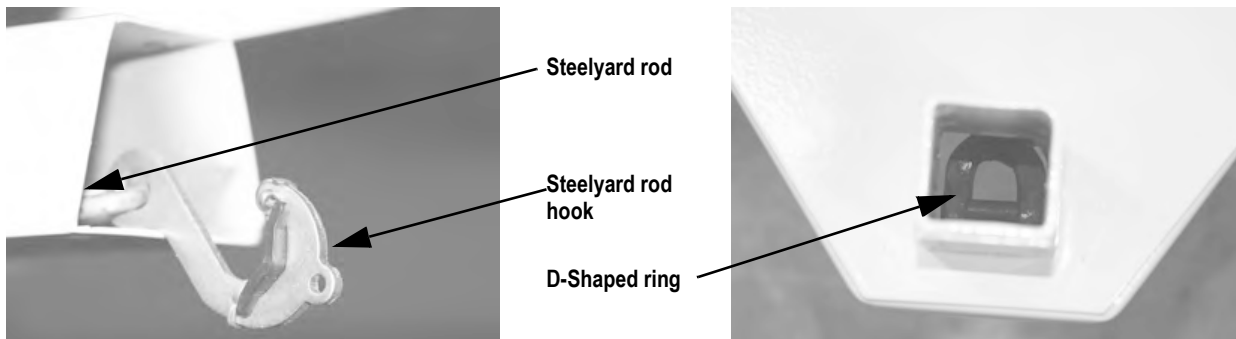

Figure 2-7. Attach Steelyard Rod to the Scale Base D-Ring
3. Attach the steelyard rod to the bottom of the scale using the J-hook. Figure 2-7 shows the hook of the steelyard rod and an inside photo of the ring in the scale bottom. Latch the hook onto the D-shaped ring.